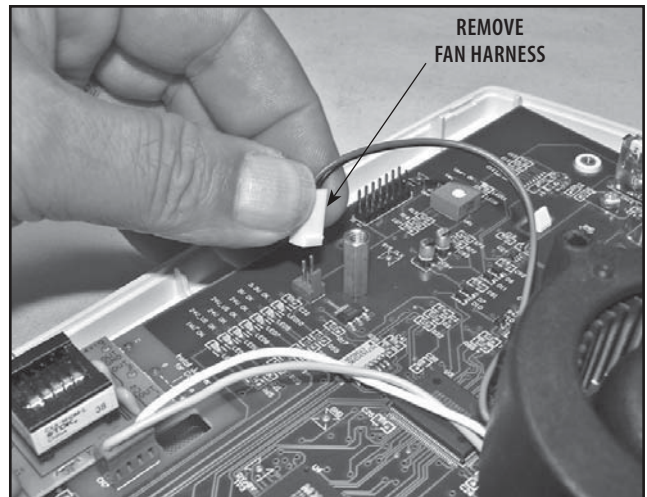

FIGURE 6.23
3. Remove the Fan Harness from the Control Board. See Figure 6.23.